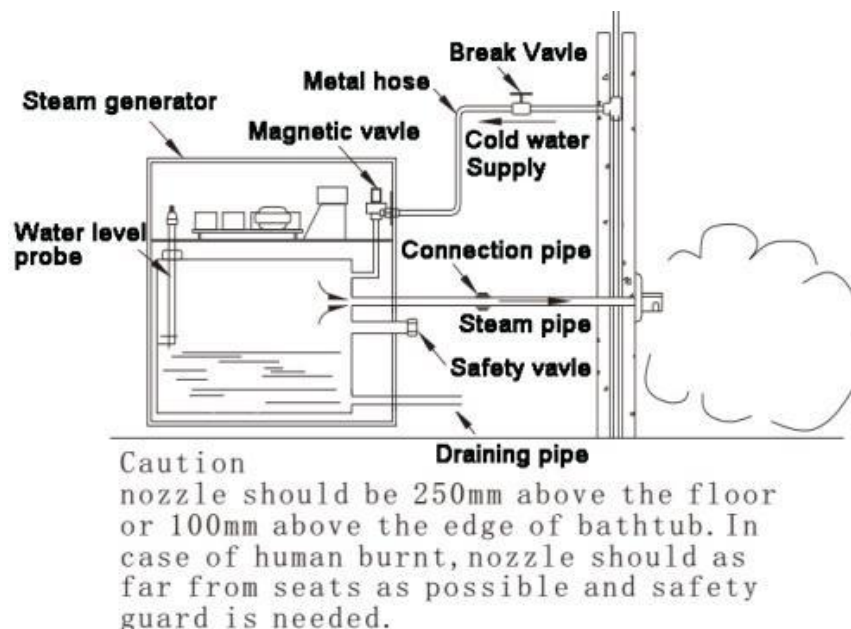

Figure 5 Installation of Steam Generator Piping System
1. The water inlet pipe, metal hose of 0.5 inch's diameter, connects Generator's water inlet and water supplying system's valve. (Figure 5)
2. The diameter of steam outlet copper pipe should be no less than 0.5 inch. (Black metal pipe or galvanized pipe is prohibited to use in case of rusting and dirtying the wall.) The steam pipe should be no more than 3 meters long. If it is more than 3 meters, some special works for heat preservation should be done. (Figure 5)